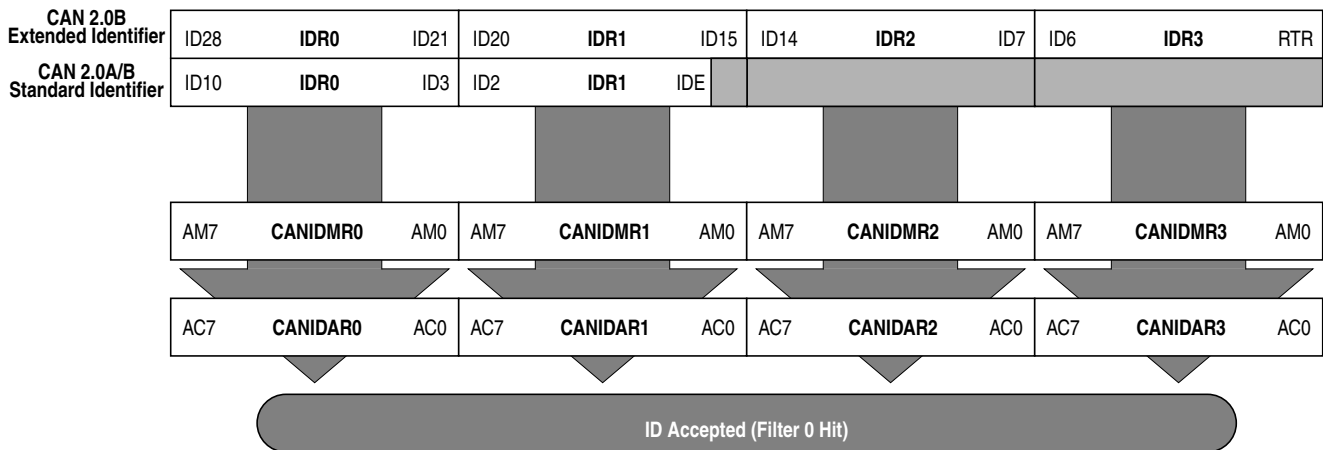

Figure 16-40. 32-bit Maskable Identifier Acceptance Filter
- The 11 bits of the standard identifier plus the RTR and IDE bits of the CAN 2.0A/B messages¹. This mode implements two filters for a full length CAN 2.0B compliant extended identifier. Figure 16-40 shows how the first 32-bit filter bank (CANIDAR0–CANIDAR3, CANIDMR0–CANIDMR3) produces a filter 0 hit. Similarly, the second filter bank (CANIDAR4–CANIDAR7, CANIDMR4–CANIDMR7) produces a filter 1 hit.